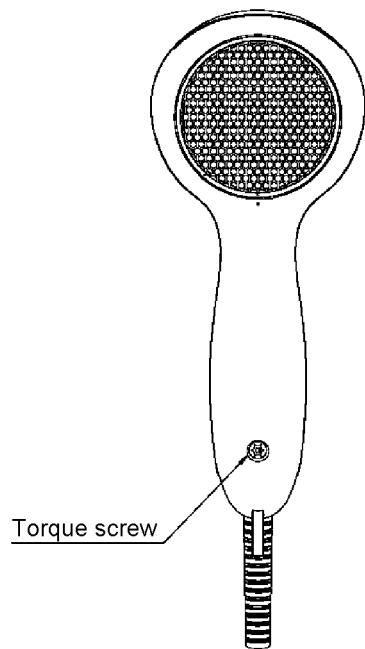

Figure 11
8. Fasten 1 torque screw as shown in Figure 11.